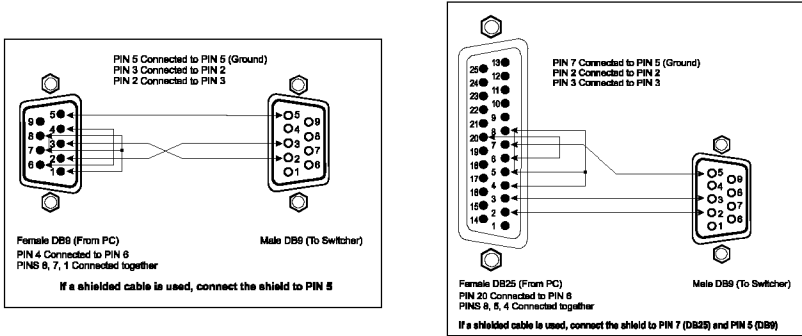

Figure 2: Connecting a VS-812 Unit to a PC without using a Null-modem Adapter
| Figure 2: | Connecting a VS-812 Unit to a PC without using a Null-modem Adapter | 5 |
- Connect the RS-232 DB9 port on your PC to the RS-232 DB9 rear panel port on the VS-812 unit, as Figure 2 illustrates (depending on whether the PC has a 9-pin or 25-pin connector)